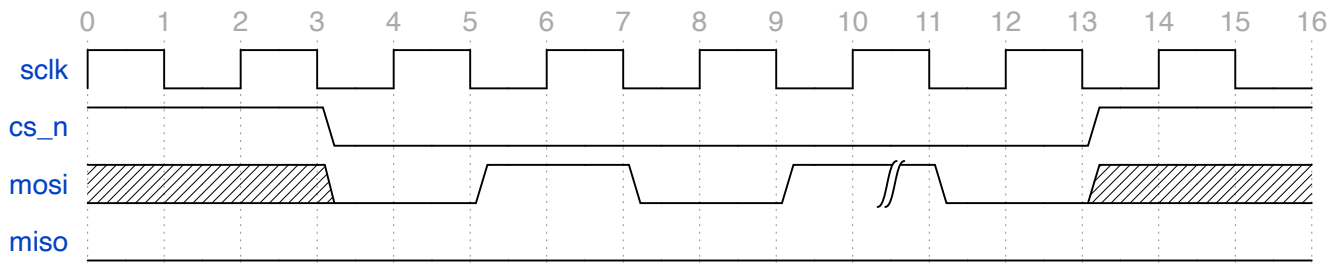

Figure 3: SPI example of transmitting the bits 0101 from main to sub, then ending the transaction.
For both transmitting and receiving, a data word is transmitted by sending one bit at a time, in the order of most significant bit (**MSB**) **first** to least significant bit (**LSB**) **last**. Figure 3 shows a sample timing diagram demonstrating sending the bits 0101 from main to sub.
- Your task is to design the **SPI submodule** and a **testbench file** that acts as the main module, according to the specifications in Sections 3 and 4. Ensure that the behavior of your design matches Figure 3 and 5 exactly.